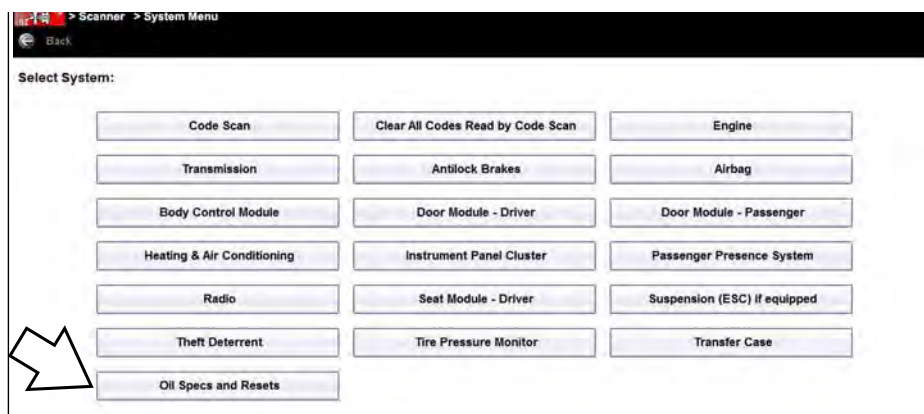

Figure 10-2 Scanner System Menu - Oil Specs and Resets Option
- **From within a current Scanner session** - select **Oil Specs and Resets** from the Select System menu (Figure 10-2), then proceed to Step 3.